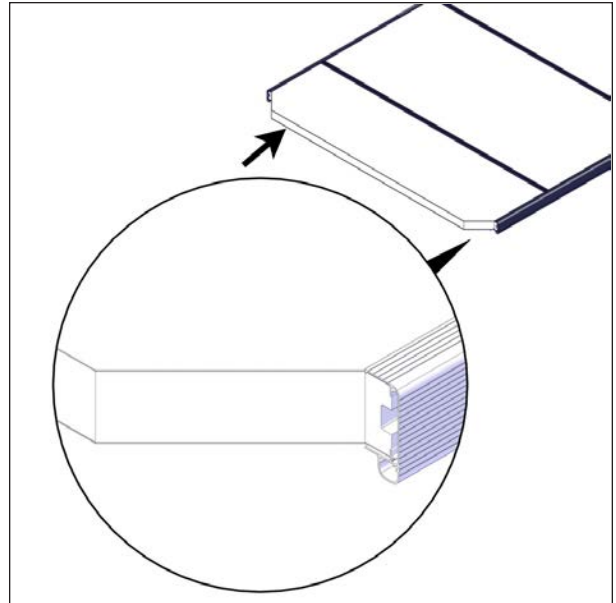

FIGURE 42: END PANEL INSTALLATION
19. Insert one end panel with the tapered end toward the end of the cover. The end panel is tapered with a 45° cut, see Figure 42.